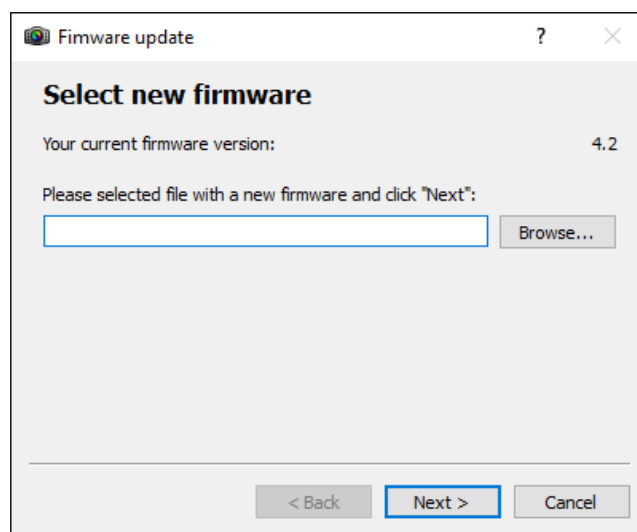

Figure 19 : Firmware Update selection window
2. Click "Browse..." button, as shown in Figure 19, and select the desired firmware update file, in accordance with the device chosen (.bin file extension), and Click "Next >" button.